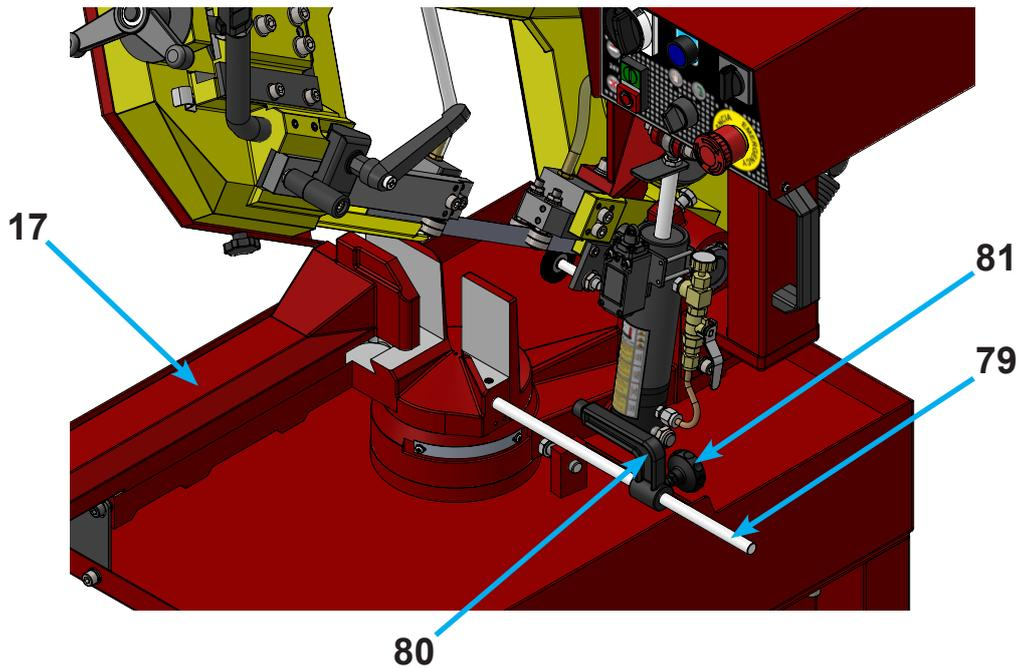

FIGURE 13.2 - MEASURING ROD SYSTEM
The **S3120NG** is equipped with a standard Measuring Rod system, consisting of a 500 mm Measuring Rod (79) and a Stopper (80) (figure 13.2).